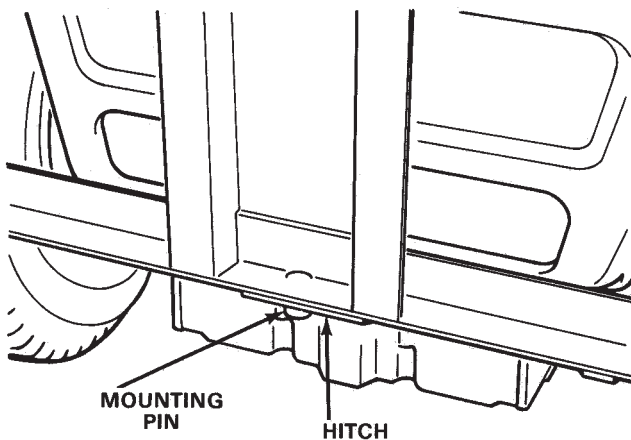

Figure 6
1. Slide grass catcher mounting pin into mounting hole in hitch (Fig. 6).